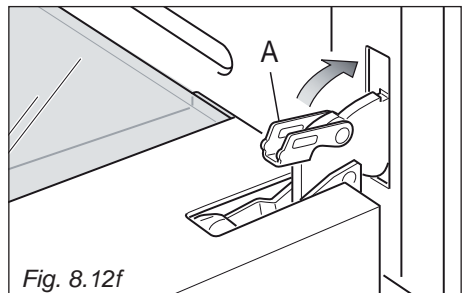

Fig. 8.12f
- Unlock the oven door by opening it completely and closing the lever "A" on the left and right hinges (fig. 8.12f).